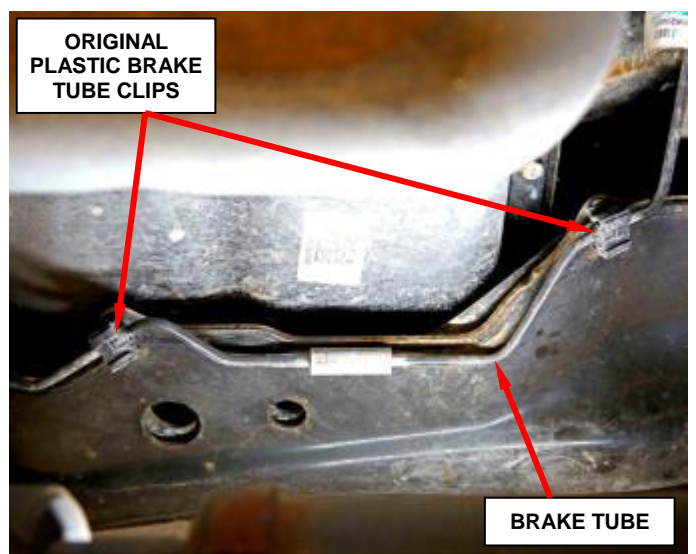

Figure 8 – Brake Tube Plastic Clips
- b. Carefully disconnect the brake tube from the two original plastic routing clips (Figure 8).